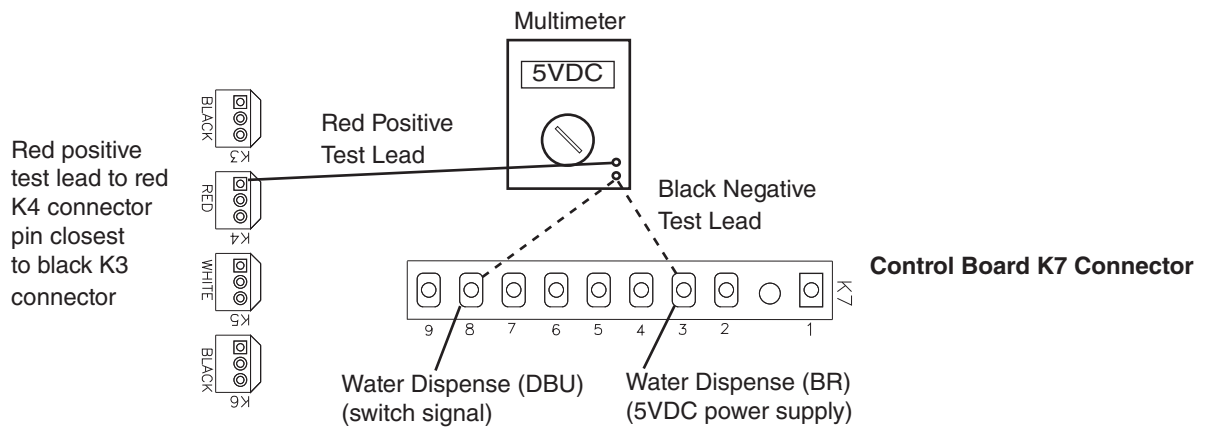

Fig. 3
- **5VDC CB K7 Connector:** See Figs. 3, 4, 5, and 6.